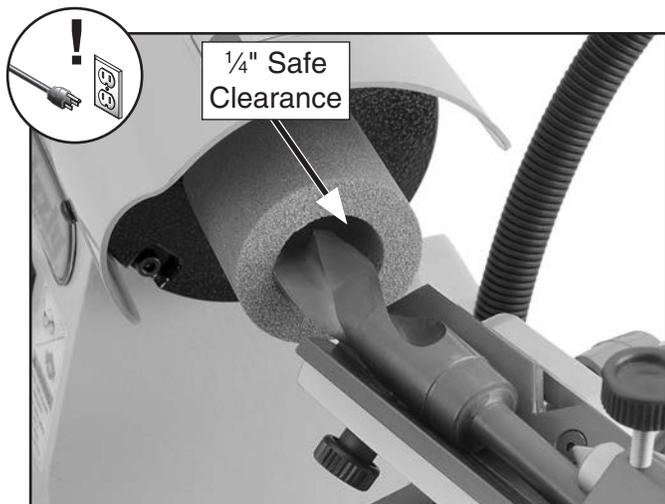

Figure 30. Drill bit outer edge slightly past the inside cutting edge of the wheel.
13. Use the carriage handwheel and pivot lever to position the outside diameter of the bit slightly past the inside cutting edge of the wheel, as shown in **Figure 30**.